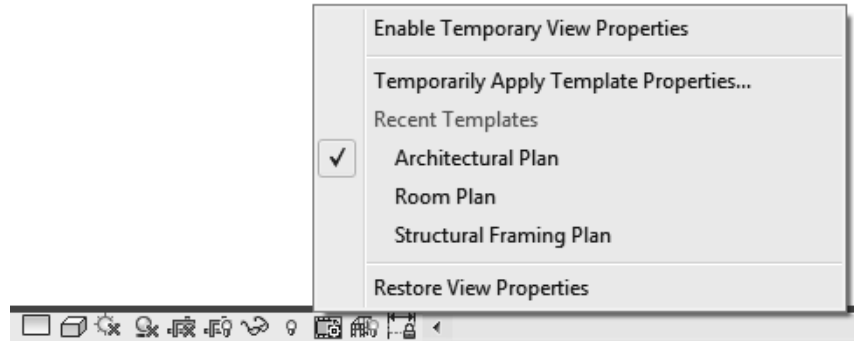

Figure 1–53
2. Expand expand  (Temporary View Properties) again and select **Temporarily Apply Template Properties**. Alternatively, if you have already used the process, you can select from a list of view templates, as shown in Figure 1–53.